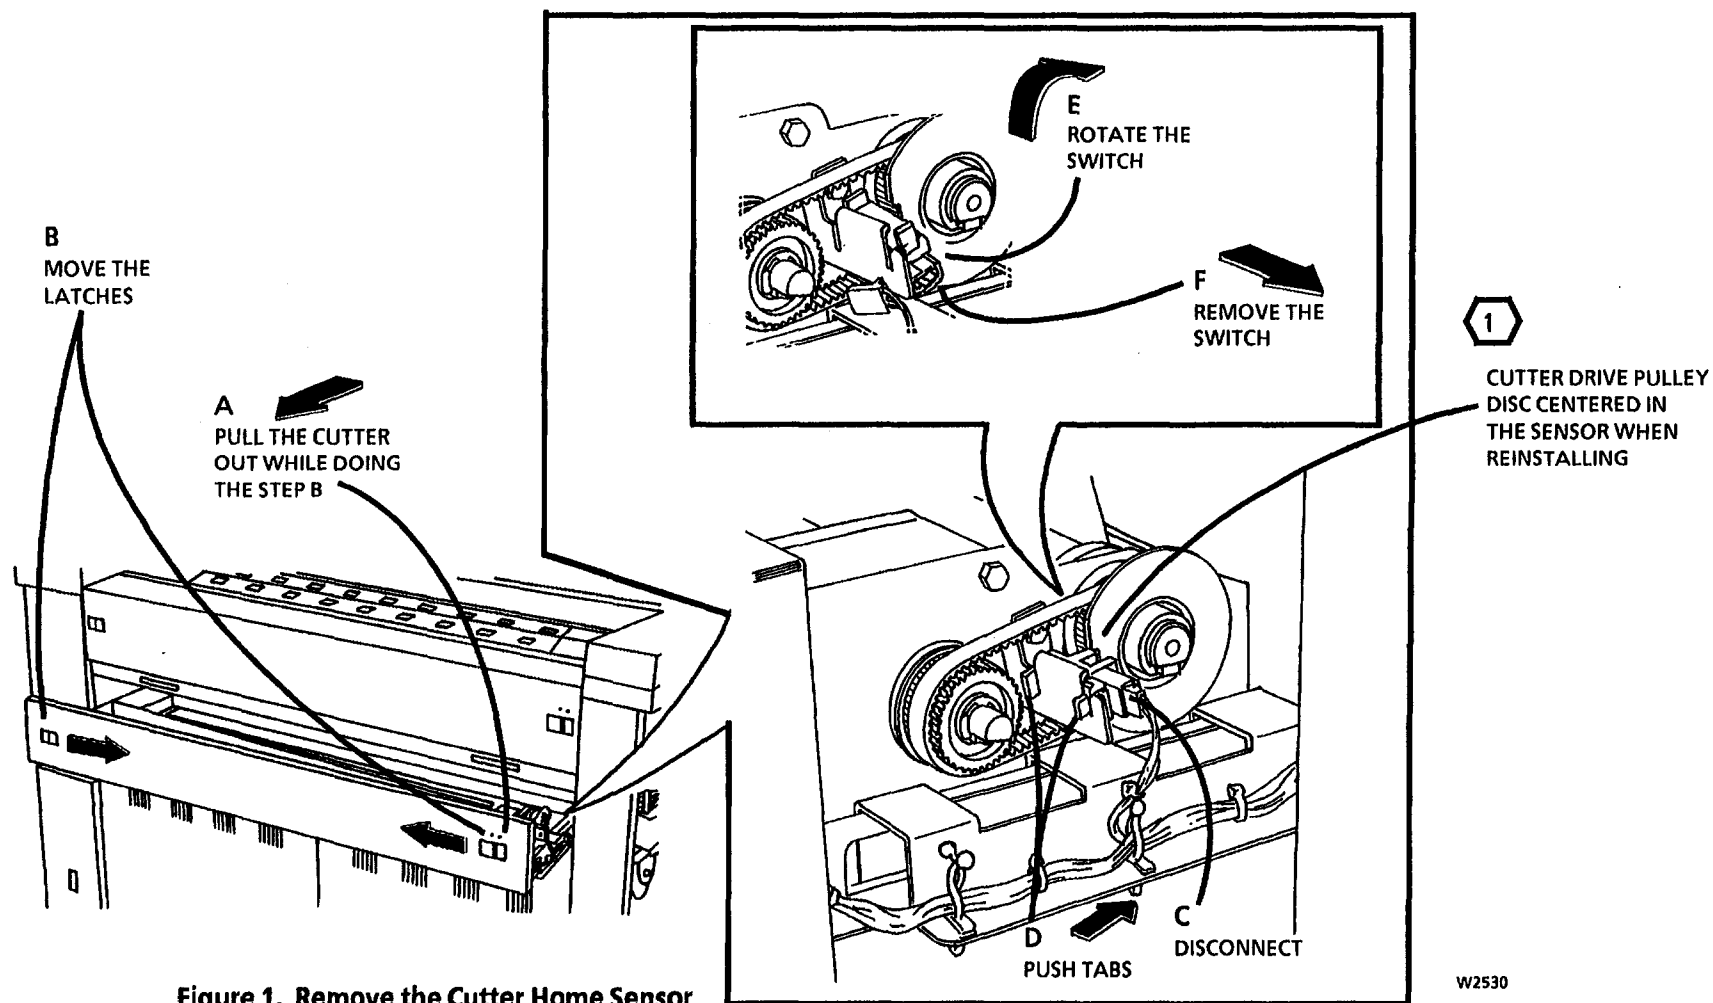

Figure 1. Remove the Cutter Home Sensor
1. (Figure 1): Remove the Cutter Home Sensor.
3. (Figure 1): Lift the Document Feed-in Shelf.